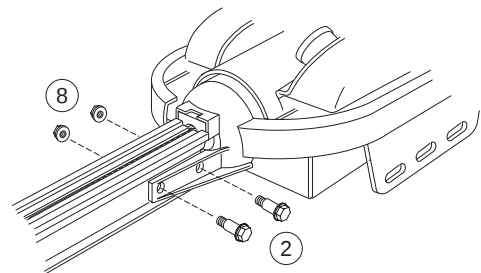

Figure 10 Bolt 1st Rail Section to Power Head
- D** Connect first Rail Section to Opener Power Head. Connect with 2 (1/4"-20) (**yellow**) Hex Head Shoulder Bolts and 2 (1/4"-20) Hex Serrated Flange Nuts (**Figure 10**). **Finger-tighten until later.**